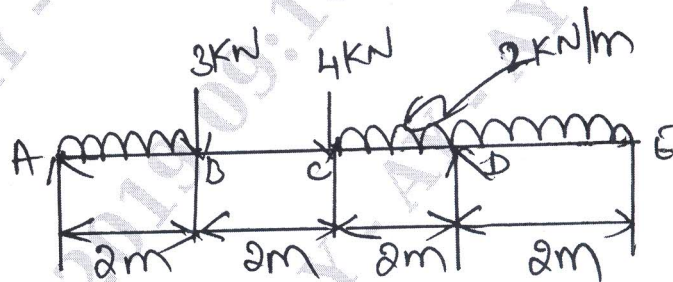

Fig Q6(b)
- b. For the beam shown in Fig Q6(b) draw the SFD and BMD. Locate the point of contra-flexure if any.